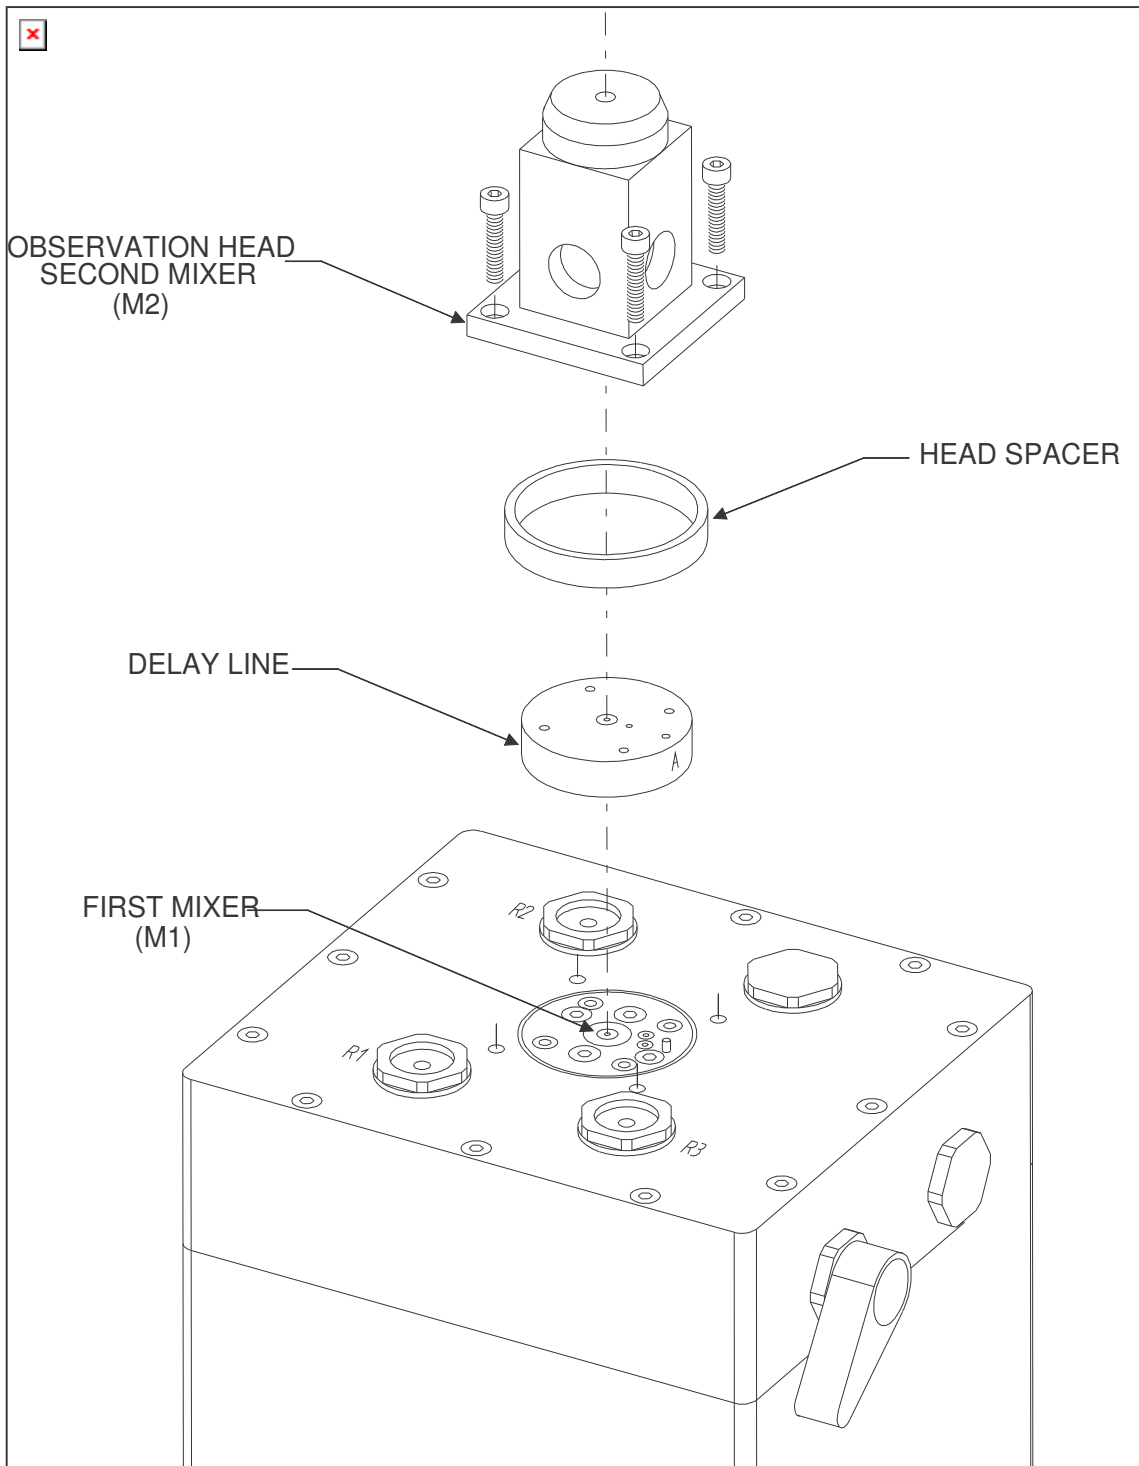
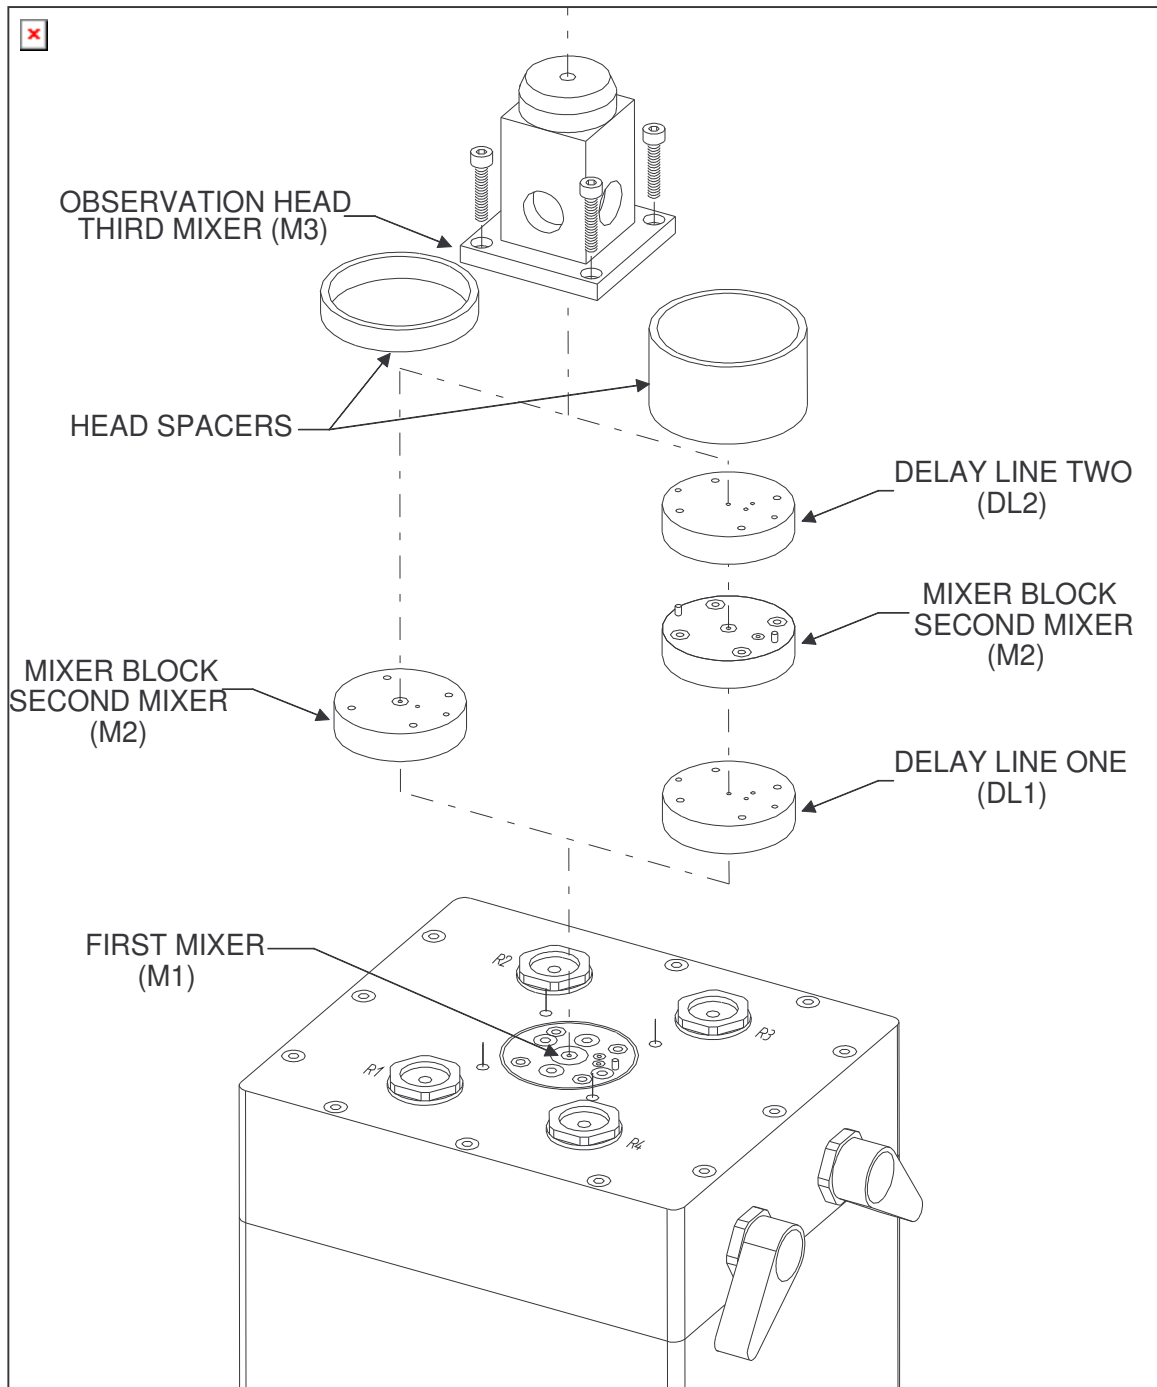

Figure 8: SFM-300: Installation of Delay Lines
Figure 9 : SFM-400: Installation of Mixing Blocks and Delay Lines
Each SFM comes from the factory with mixers installed. The mixers are located in the syringe block between the syringe block and the observation head (SFM-400) and at the bottom of the observation head below the cuvette as shown in Figure 8 and Figure 9. As in all stopped-flow systems, the mixer is one of the most delicate pieces of the instrument. It is recommended to check the state of the mixer regularly and also when the SFM has been unused for a prolonged period of time. Instructions for removal and replacement of the mixers are described in section 8.2.
**SFM-300** - The observation head and delay line are installed as shown in Figure 8. The smallest delay line comes standard and installed with the instrument
**SFM-400** - The observation head and delay line(s) are installed as shown in Figure 9.
NONE	Only a delay line is installed between the SFM body and the observation head and the SFM-400 functions as an SFM-300 (Figure 8). Syringe 3 is blocked by the delay line and only syringes 1, 2, and 4 are useable. In this case, syringe 3 does not need to be filled.